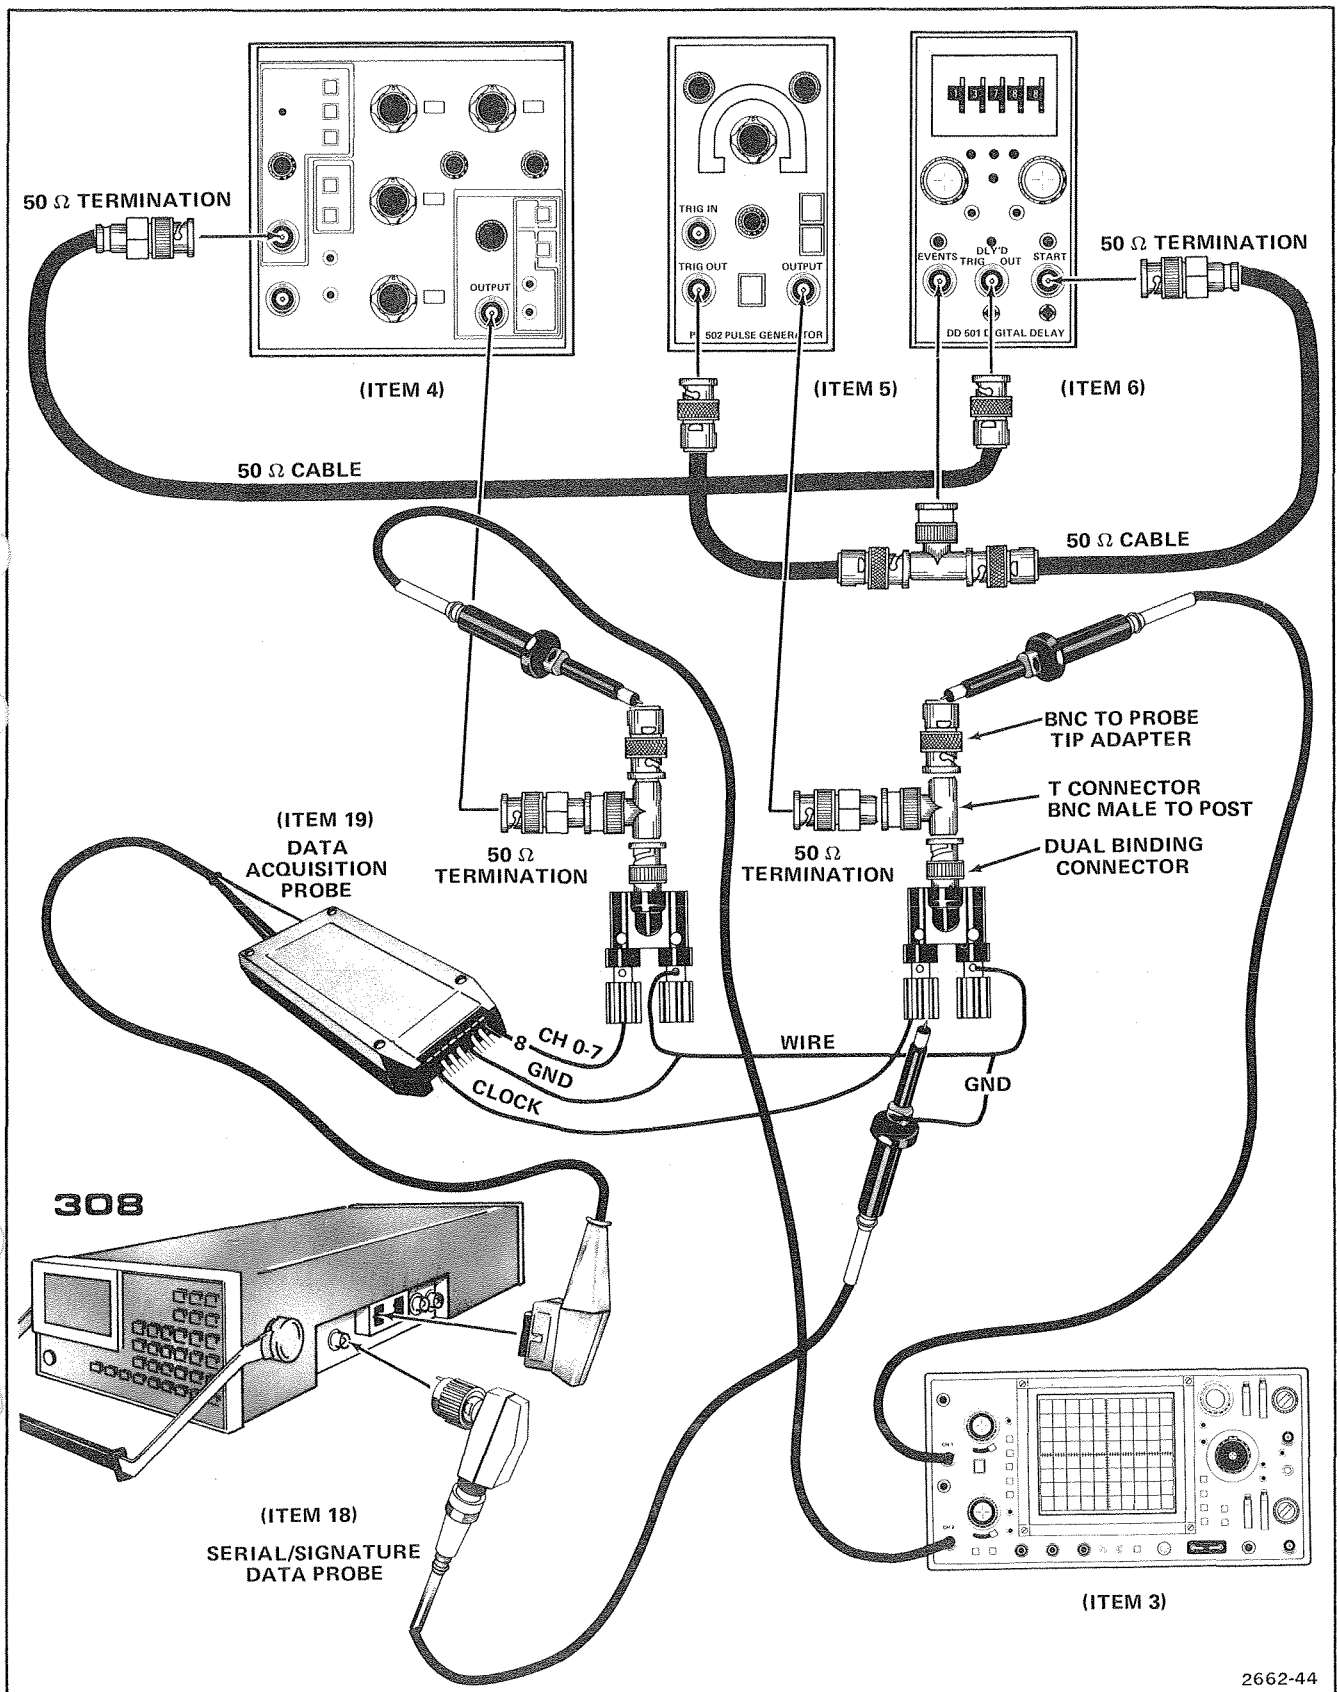

Figure 4-8. Test setup for trigger delay counter.
e. Connect test setup as shown in Figure 4-8, but do not connect the Serial/Signature probe (Item 18).
h. Add a third Dual Binding Post Adapter (item 15) to the test setup shown in Fig. 4-8. Connect this adapter to the EXTERNAL TRIGGER QUALIFIER INPUT connector on the 308. Connect the ungrounded post on this adapter to the ground post on the other two adapters in the setup.
e. Connect test setup as shown in Figure 4-8.